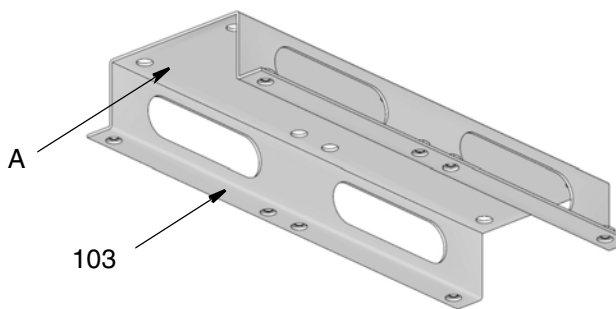

FIG. 3
5. Remove hose stop from hose end and save the parts to reinstall on the hose later (FIG. 3).
1. Use the mounting channel (103) to lay out the position of the mounting holes before you drill.
3. Secure mounting channel (103) to mounting surface (FIG. 3).
**NOTE:** The user must provide four bolts and four washers (A) (FIG. 3) that are strong enough to support the weight of the reel, cord and accessories. See Technical Data in the SD Series Cord and Light Reel instruction manual for the reel's weight without accessories.